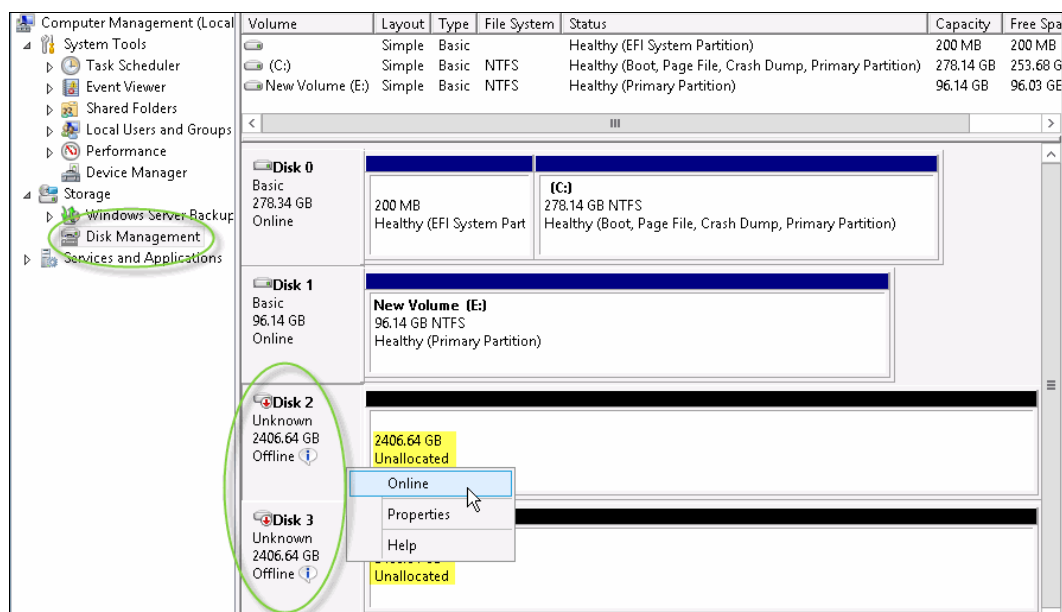

Figure 3-7 New volumes presented from FlashSystem A9000 storage device
5. New volumes show under Disk Management as **Offline** and **Unallocated**. Right-click on the disk name and select **Online** to bring the volume to online status (see Figure 3-7).